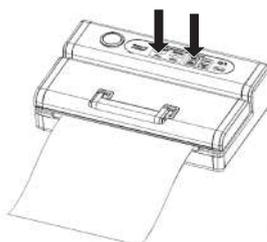

Fig.8
- LED light will indicate your selection (fig. 8).